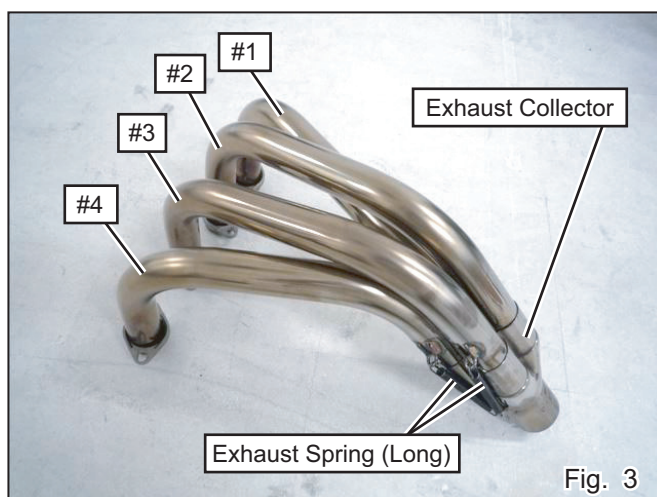

Fig. 3
- 4) Check sticker numbers on Exhaust Collector and install 4 of Exhaust Pipe in the right place from #4 >> #3 >> #1 >> #2 in order. Then, fit chips on Exhaust Pipe #1 and #3 to recesses on Exhaust Collector, adjust the position of Exhaust Pipe #1 and #4 to engine wide and install 4 of Exhaust Spring (Long). (See Fig. 3)